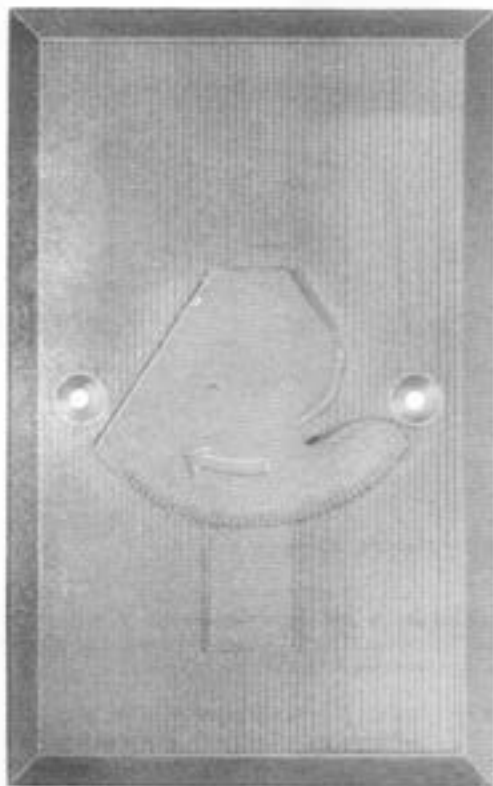

Fig. 6—625FS or 625H Connecting Block
2.08 The **625FS** connecting block (Fig. 6) is flush mounted and has a molded faceplate and a customer-operable spring-loaded cover which protects the interior telephone line contact springs from contamination. It is intended for use in areas subject
2.09 The 625FS6 connecting block (Fig. 6) is identical to the 625FS connecting block except it is equipped with six screw terminals.
2.10 The **625H** connecting block (Fig. 6) is constructed the same as the 625FS connecting block except for the modular jack which is a 645H2 jack. The tip and ring are provided on contacts 1 and 6 and will be designated GN and R. The 625H connecting block is intended for use in hospital critical care areas to provide connection by specially wired instruments to transmit electrocardiogram (EKG) signals or voice signals (using a TRIMLINE® telephone set with AD3H or AC2PH telephone set base) on the telephone network.
- ♦(1) Install the flush-mounted swingers with the pivot point of the spring-loaded cover up (Fig. 6).
3.07 625FS or 625H Connecting Block: Connect station wire to terminals on rear of connecting block as shown in Table A. Mount the block as shown in Fig. 6.